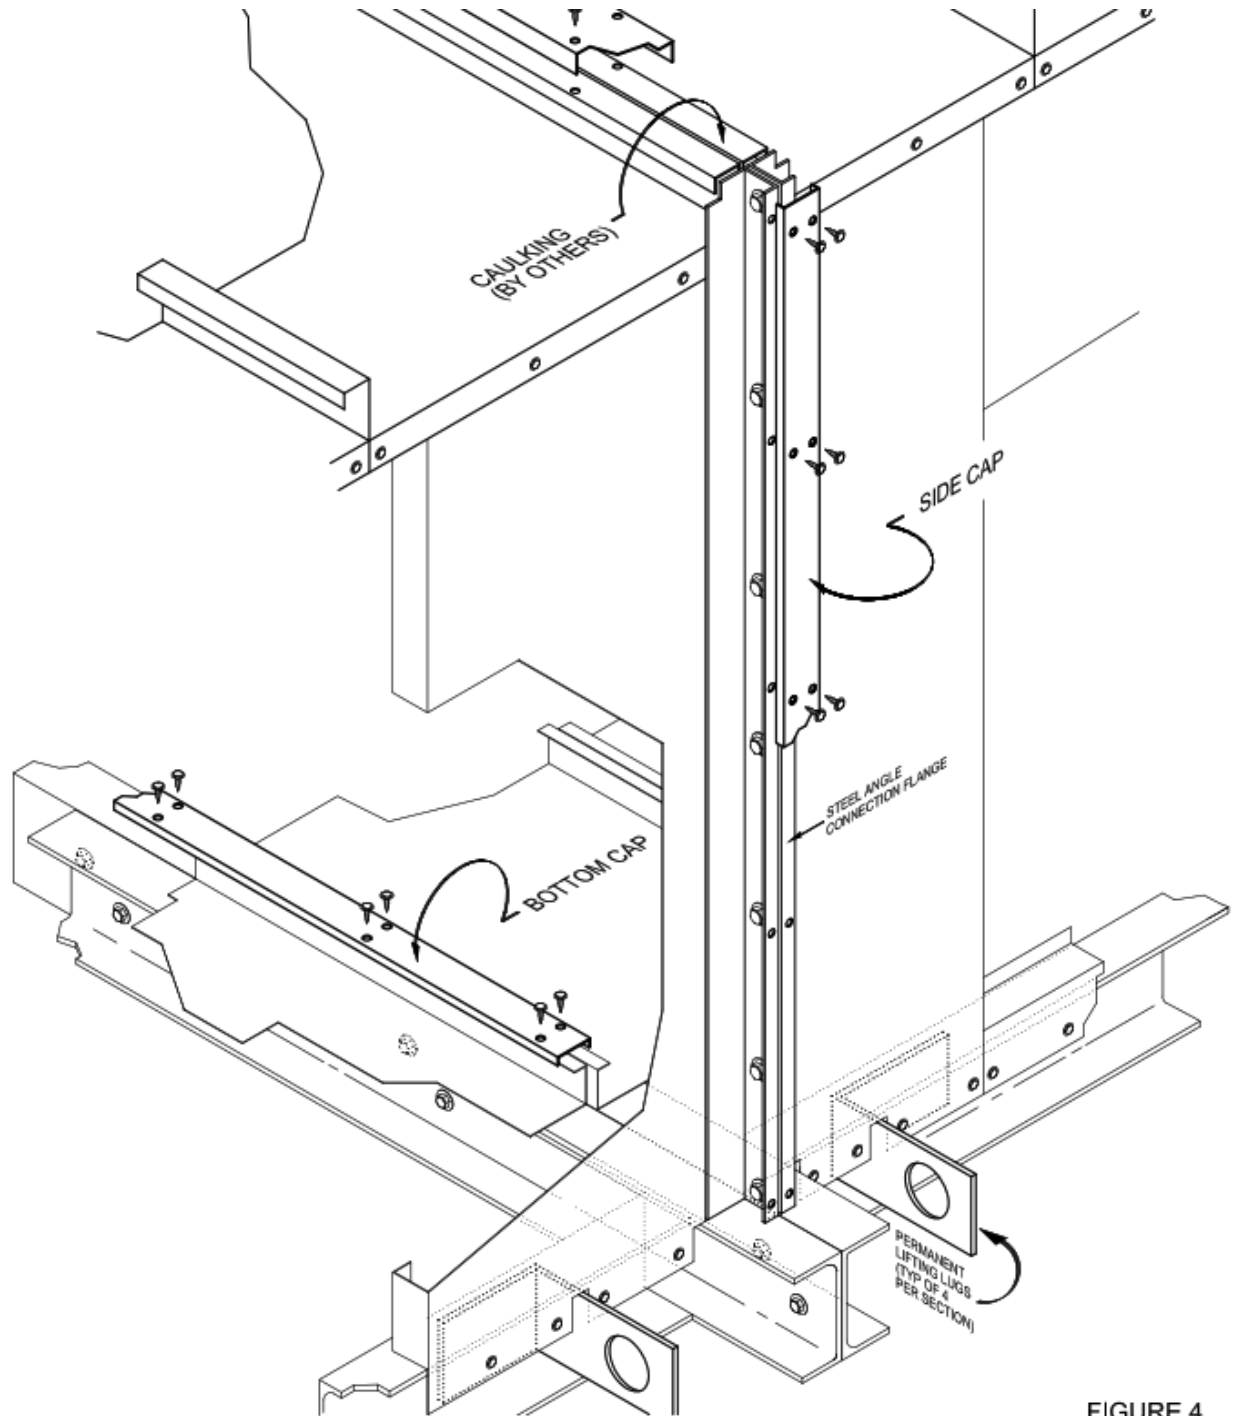

FIGURE 4
8. Install bolts through all holes located along the split line of the perimeter for the two sections. Evenly tighten all nuts and bolts around the perimeter of the unit split. (see Figure 4)
9. Install caps (if supplied) along the roof and sides of the unit. (see Figure 4)